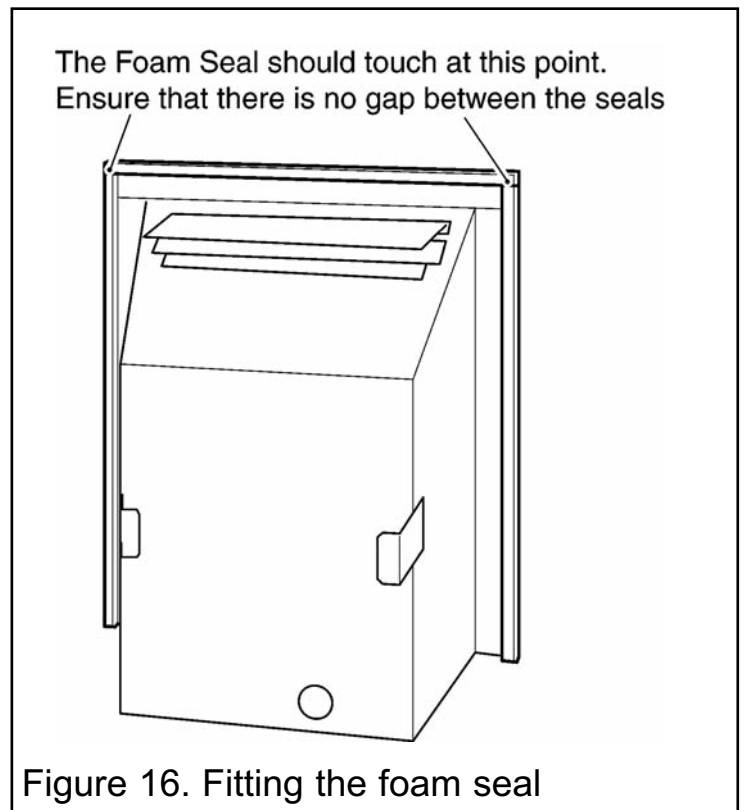

Figure 16. Fitting the foam seal
**15.** There is a length of self adhesive foam seal supplied with the fire. This will need to be fitted to the outer rear edges of the side and top flanges of the hotbox. Cut a 485mm length of foam seal. Be careful not to stretch the seal when measuring. Remove the protective backing from the foam seal and fit this to the rear of the top flange (See figure 16). Cut two 580mm lengths. Fit these to the rear outer edges of the side flanges. Ensure that there is no gap between the foam seals where they meet at the top flange (See figure 16).